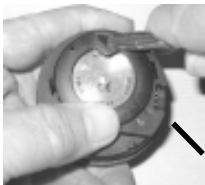

Fig. 107 -TIGHTENING the
- Using your fingers, turn the Ring counter clockwise 5 degrees until the tabs engage (Fig. 106), then tighten it 5 more degrees by turning it counter clockwise using the Battery Hatch Tool (Fig. 107).